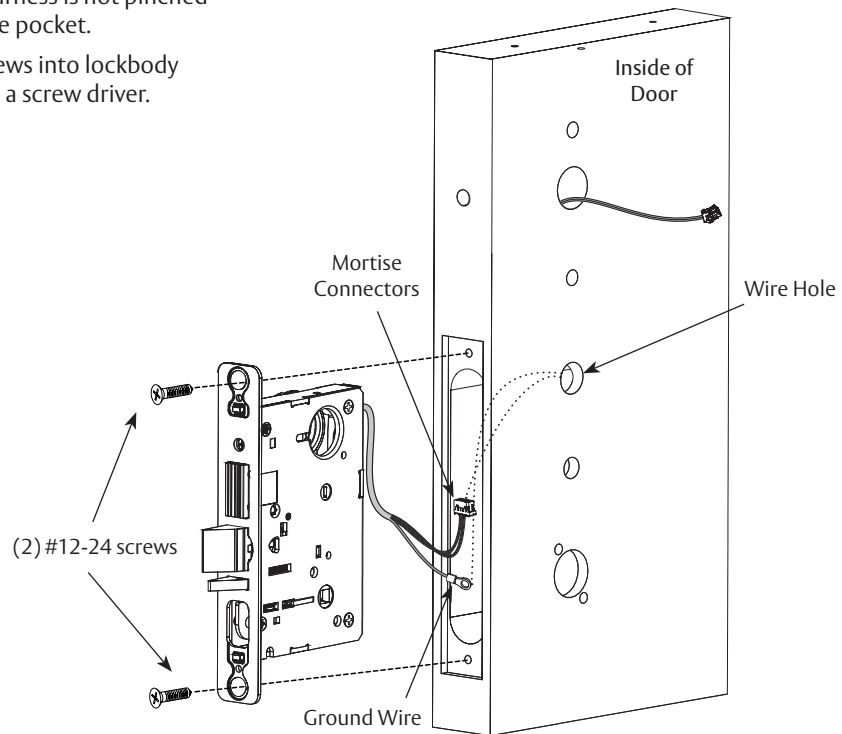

Fig. 7
6. Install lockbody. (Figure 7)